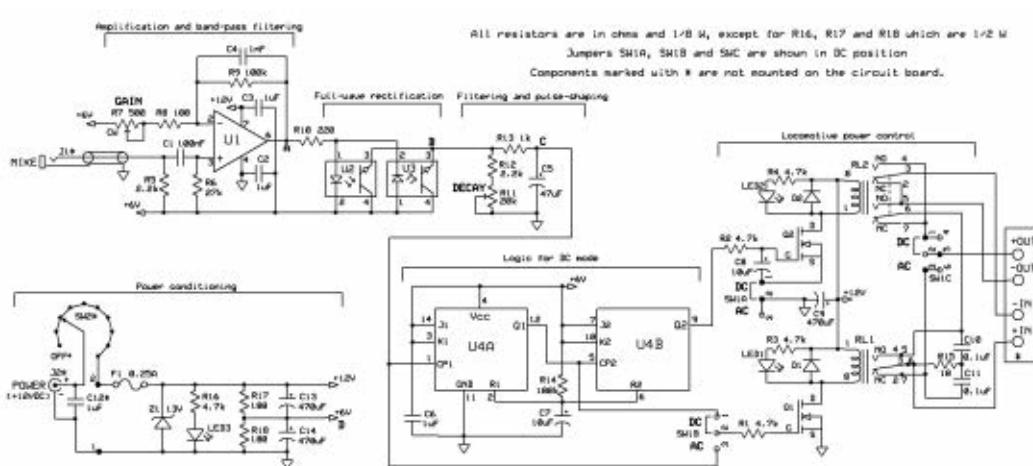

FIGURE 3. Schematic of the Train Voice Command.
The schematic is shown in **Figure 3**. Electric power is provided by a power converter (wall wart) whose output is
*FF: flip-flop, in IC U4 (see Figure 3); Q1, Q2 low = 0V (false), high = +6V (true)
Adjustment and troubleshooting are easier with an oscilloscope. Before inserting any ICs, apply power; LED3 should be lit, and LED1 and LED2 should be dark. Check that the following voltages are correct and have the right polarity (refer back to **Figure 3**; all voltages are referred to ground = 0V):